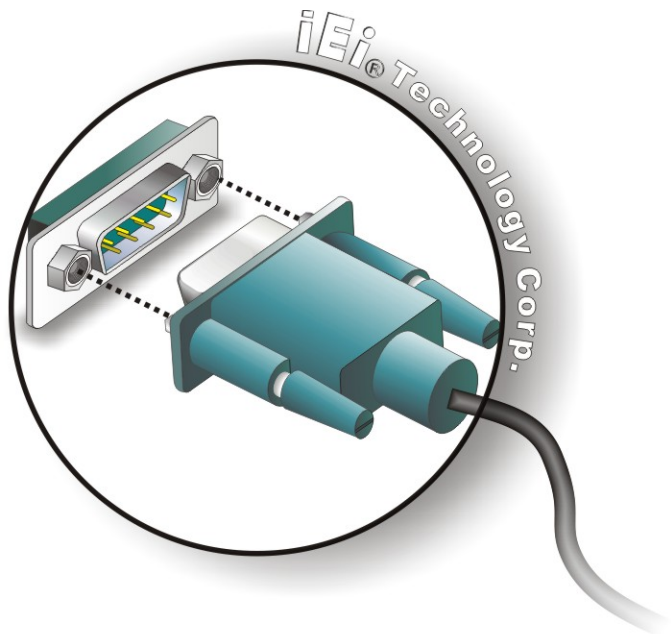

Figure 3-28: DB-9 Serial Port Connector
Step 2: Insert the serial connector. Insert the DB-9 connector of a serial device into the DB-9 connector on the bottom panel. See **Figure 3-28**.